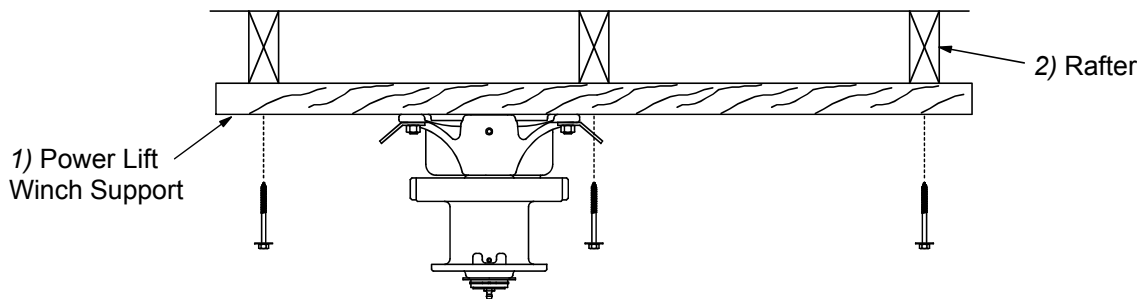

Figure 7. Mounting the Power Lift Winch and Support to the Rafters
2. Attach the Power Lift Winch Support (with the Power Winch secured) to the ceiling at the center of the feeder line. See **Figure 7**. The Power Lift Winch Support must be parallel to the feeder line and must span at least 3 rafters in a wood frame house and 2 rafters in a steel frame house. If the hopper is located at the center of the feeder line, locate the Power Winch a few feet offset from the center of the feeder line. However, the Winch Drum must be directly in line with where the main cable is to be installed.